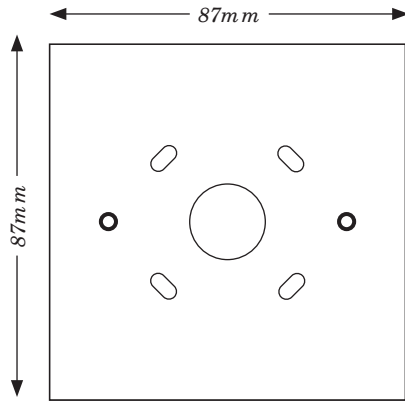

Fig 2 Back box
- 1. Fit the backbox (**Fig 2**) to the wall.